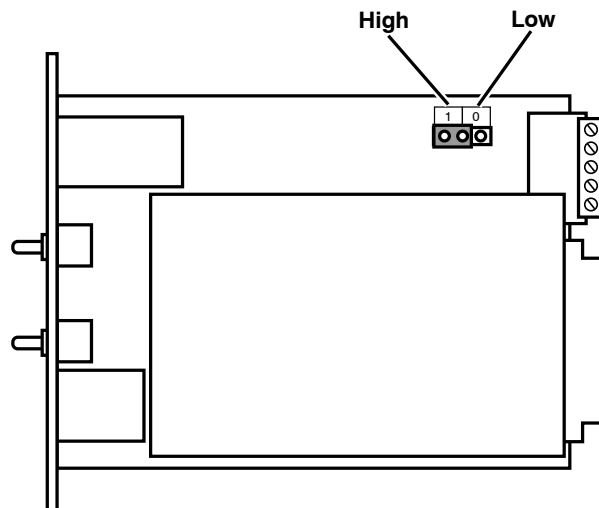

Figure 7.2: Control Module Jumper
1. **Control Card Jumper Setting:** Set the Jumper to the "0" position. This will set the non-active, non-alarm signal state to "Low" as shown in Figure 7.2.